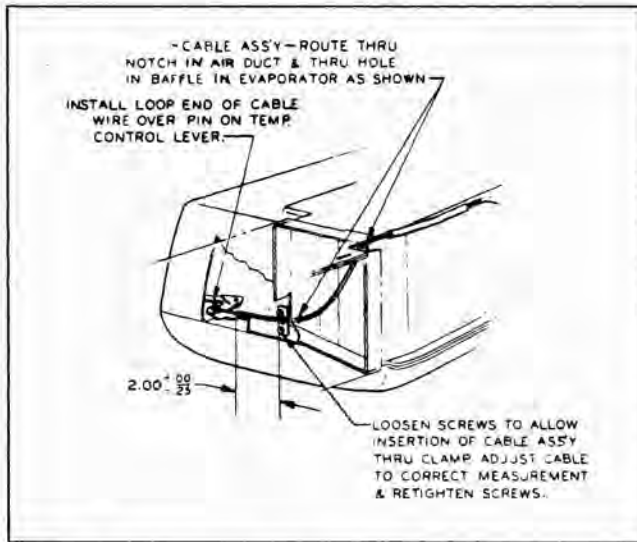

Fig. 6-25 Pontiac Temperature Control Cable Hook-up at Evaporator Housing
2. Remove evaporator right side grille and disconnect cable at air conditioning control lever assembly (Fig. 6-25).
7. Pull cable through dash and attach to control lever so cable housing extends through the cable clamp and 2" beyond (Fig. 6-25). Secure clamp.